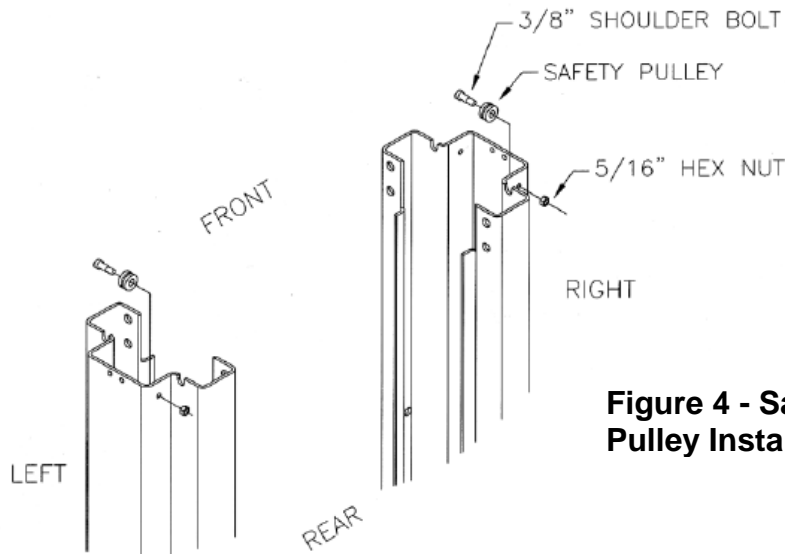

Figure 4 - Safety Release Pulley Installation
1. Install the safety pulley on each tower as shown in **Figure 4**.